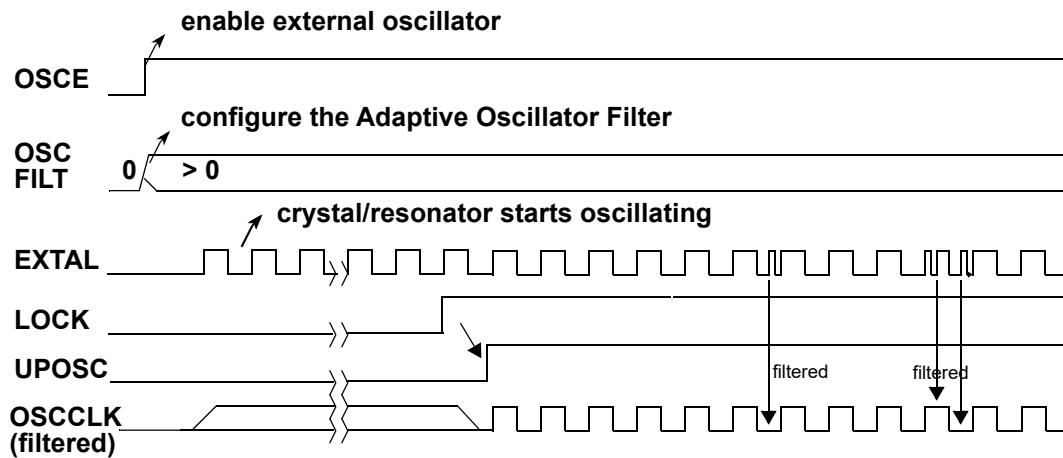

Figure 98. Noise filtered by the adaptive oscillator filter
1. Filter noise (spikes) from the incoming external oscillator clock. The filter feature is illustrated in Figure 98.